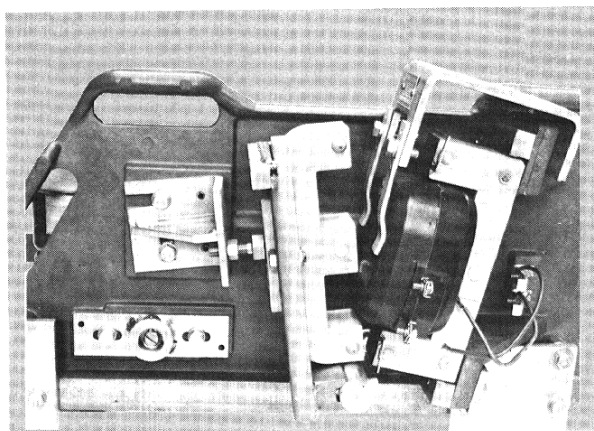
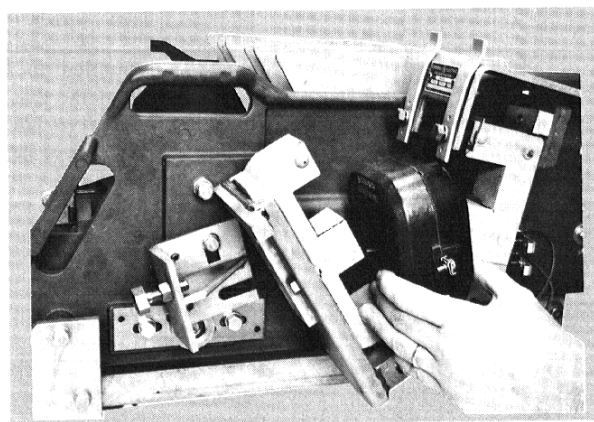
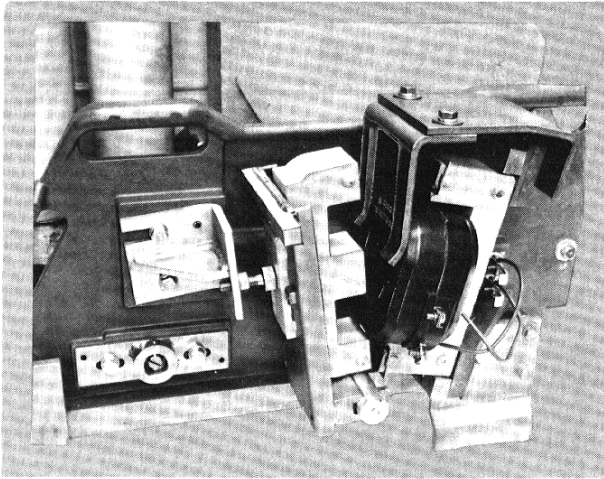
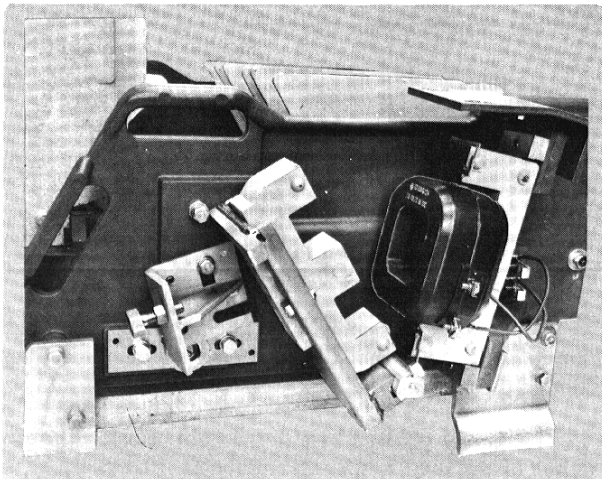

Fig. 32. Magnet structure with old style coil-retaining assembly
Fig. 33. Backstop rotated to permit removal of coil
Fig. 34. Magnet structure with new style coil retainer
Fig. 35. New style coil retainer removed to allow removal of coil
8. Check to be sure that the armature doesn't hit on the coil and that the coil leads and retaining springs or bracket (see Fig. 32 or Fig. 34) haven't been left in the way so that armature hits them when it closes.
(a) Flat pole shaders (see Fig. 32 or 34)
5. Check also to be sure armature doesn't hit on coil, and that coil leads and retaining springs or bracket (see Fig. 32 or 34) haven't been left in the way so that armature hits them when it closes.
1. Loosen the backstop support bolts and rotate the backstop in the position (see Fig. 33 and 35).
2. Disconnect coil leads at the coil (see Fig. 32 and 34).
3. For contactors that have a coil retainer as shown in Fig. 32, loosen bolts that secure the two coil retaining springs and rotate the springs 180 degrees, as shown in Fig. 33, and remove the coil.
3a. For contactors having a coil retainer as shown in Fig. 34, remove hardware that bolts the coil retainer to its support. Remove retainer as shown in Fig. 35 to allow removal of the coil.